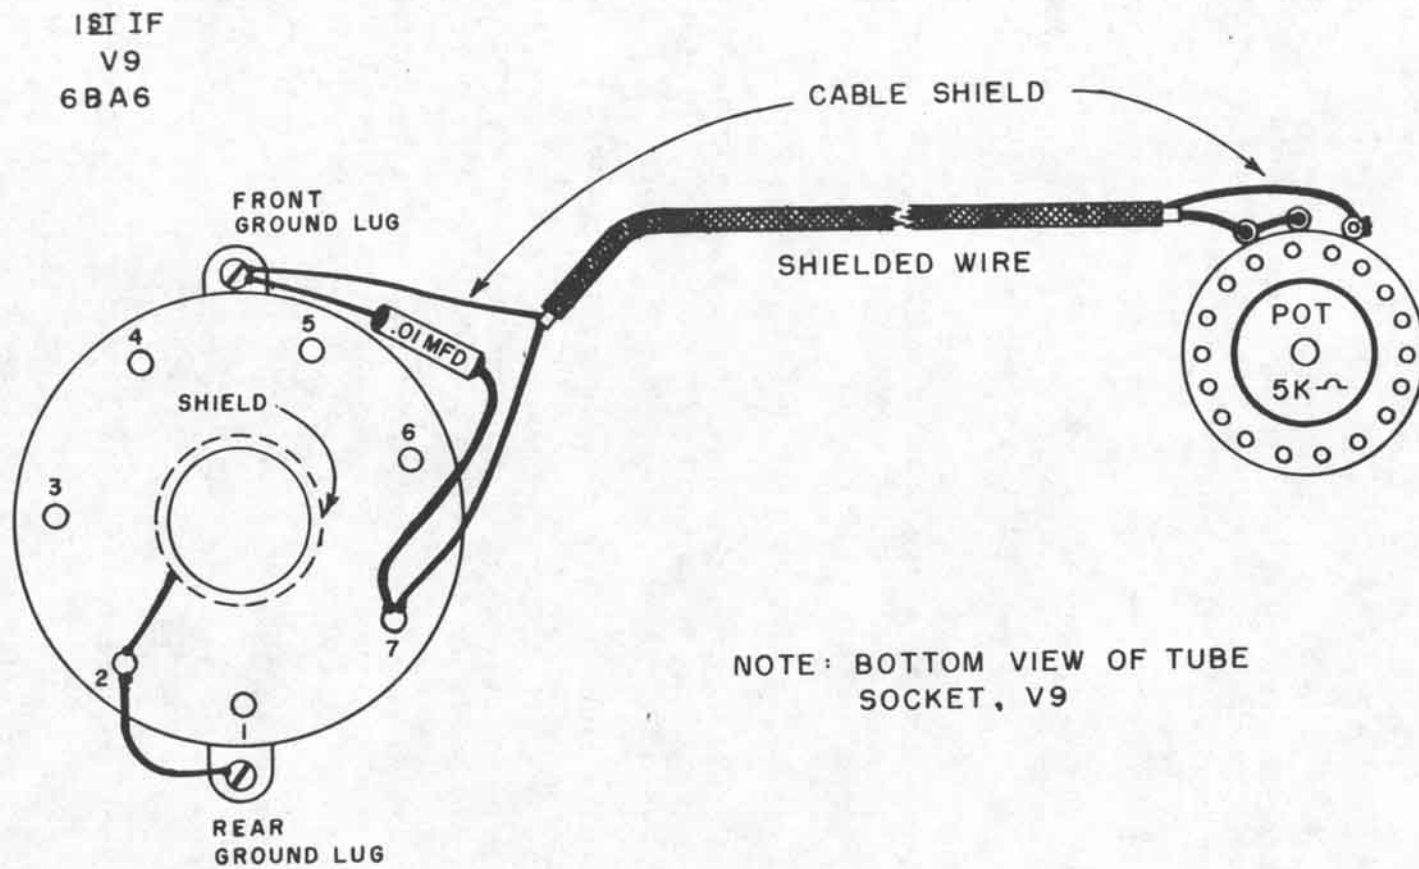

Figure 2. Installation of IF Gain Control
- (1) With receiver's bottom up; feed free end of the new IF Gain control cable through the grommet in front skirt of chassis and install the IF Gain control on the front panel, using the hole from which tuning lock was removed.
- (2) With the terminals of the new IF Gain control facing upward, toward bottom of receiver, secure the control using the lockwasher and nut previously removed from the tuning lock.
- (3) Install tuning lock knob on the IF Gain control shaft.
- (4) Dress the new cable, along with the receiver cable, towards the side of the tuning unit and then upward and through the slot at the front bottom corner of the tuning unit shield.
- (5) Dress the cable across the inside front of the tuning unit shield and through the slot in the opposite corner of the shield.
- (6) Leave just enough slack in cable inside the tuning unit shield to clear below the screw head in the center of the shield's front.
- (7) Dress cable downward along front corner of tuning unit shield; then around the front of chassis with the receiver cable and then along the side of the chassis until it is opposite to the front of socket for tube V9.
- (8) Replace tuning unit bottom cover.
- (9) Unsolder and remove wire connections between pin 7 and center-shield of socket for tube V9 and the chassis.
- (10) Connect pin 2 and center shield of socket for tube V9 to the rear ground lug of this socket (see Figure 2).
- (11) Connect the center conductor of new cable together with one lead of new 0.01 mfd capacitor to pin 7 of socket for tube V9 (see Figure 2).
- (12) Connect other lead of the new capacitor and cable shield to the front ground lug of the socket for tube V9 (see Figure 2).